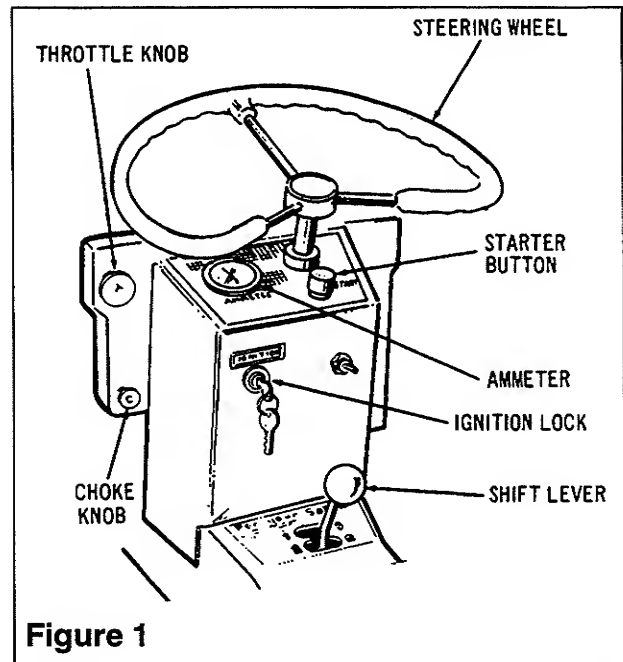
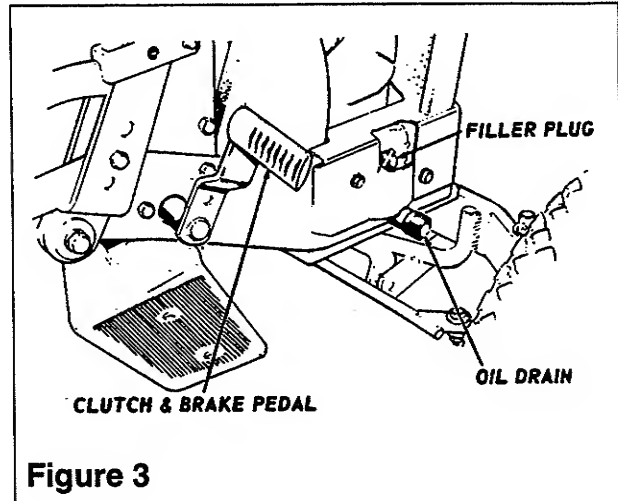

Figure 1
Figure 3
1. Place gear shift lever in neutral position. See Figure 1.
2. Place choke lever in "ON" position. See Figure 1.
3. Set throttle lever in mid position and turn ignition key to "ON". See Figure 1. Press starter button to start engine and release. As engine warms up, return choke lever to "OFF" position.
3. Place choke lever in "ON" position. See Figure 1.
4. Place throttle lever in mid position and turn ignition key to "ON" position. See Figure 1.
To place gear shift in desired gear range, depress the combination brake and Clutch pedal located on right hand side of tractor. See Figure 3. When pedal is depressed move shift lever to desired position (see Figure 1) and gradually release pedal until clutch is engaged. When shifting from one range to another, pause briefly in neutral before completing shift. Set throttle lever to obtain desired speed. See Figure 1.